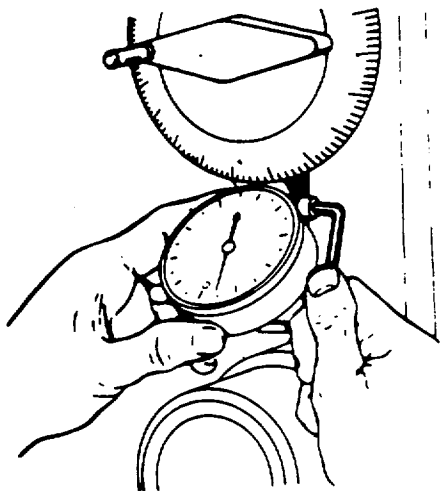

FIGURE 94
- (a) If needle is not on the red line, loosen set screw in side of Honing Dial bracket and move Dial up or down as needed to set needle on red line (Figure 94). Tighten set screw.